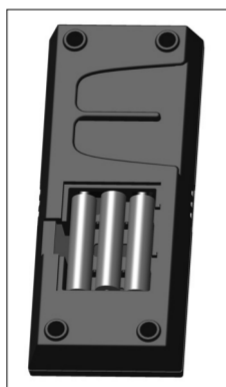

Fig. 3: Battery compartment.
Power the receiver. Activate the procedure of the receiver address programming, see the receiver instruction (*). The Receiver will "beep" three (3) times to indicate that it is ready to synchronize with a Transmitter. Install the 3 AAA type batteries in the Transmitter battery bay, located on the base of the Transmitter. (fig. 3) With the batteries already installed in the Transmitter, push the On button. The Receiver will "beep" four times to indicate the Transmitter's command is accepted and sets to the particular code of that Transmitter. The system is now initialized.